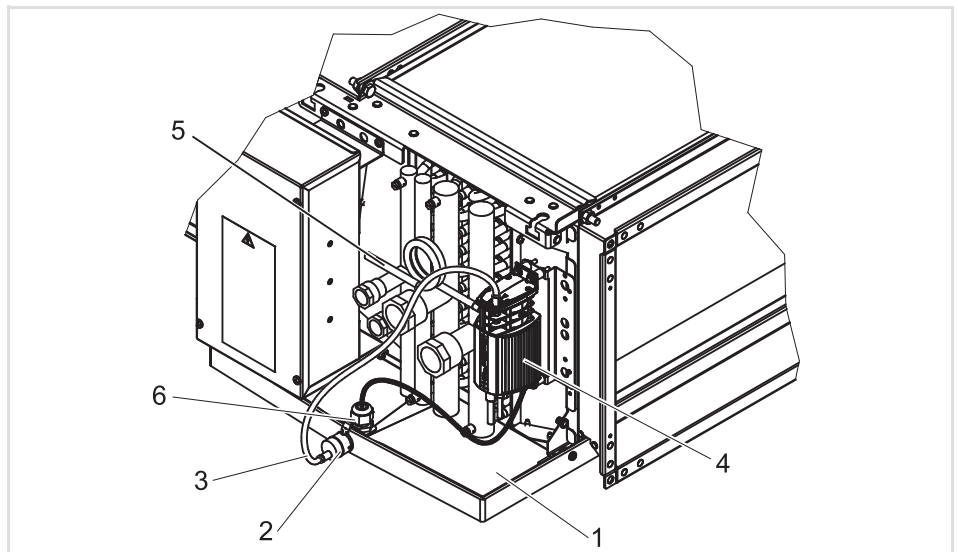

Fig. 8-10: Cooling units with condensate pump
- Dismantle the condensate drain outlet (see Fig. 8-10, Pos. 2)